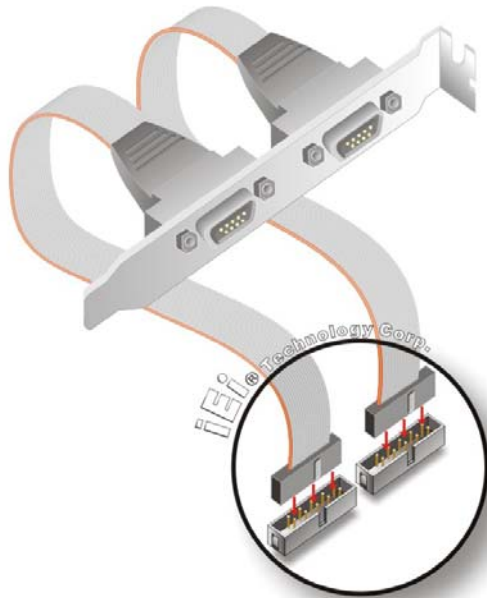

Figure 4-9: Dual RS-232 Cable Installation
Step 2: Insert the cable connectors. Insert one connector into each serial port box headers. See Figure 4-9. A key on the front of the cable connectors ensures the connector can only be installed in one direction.